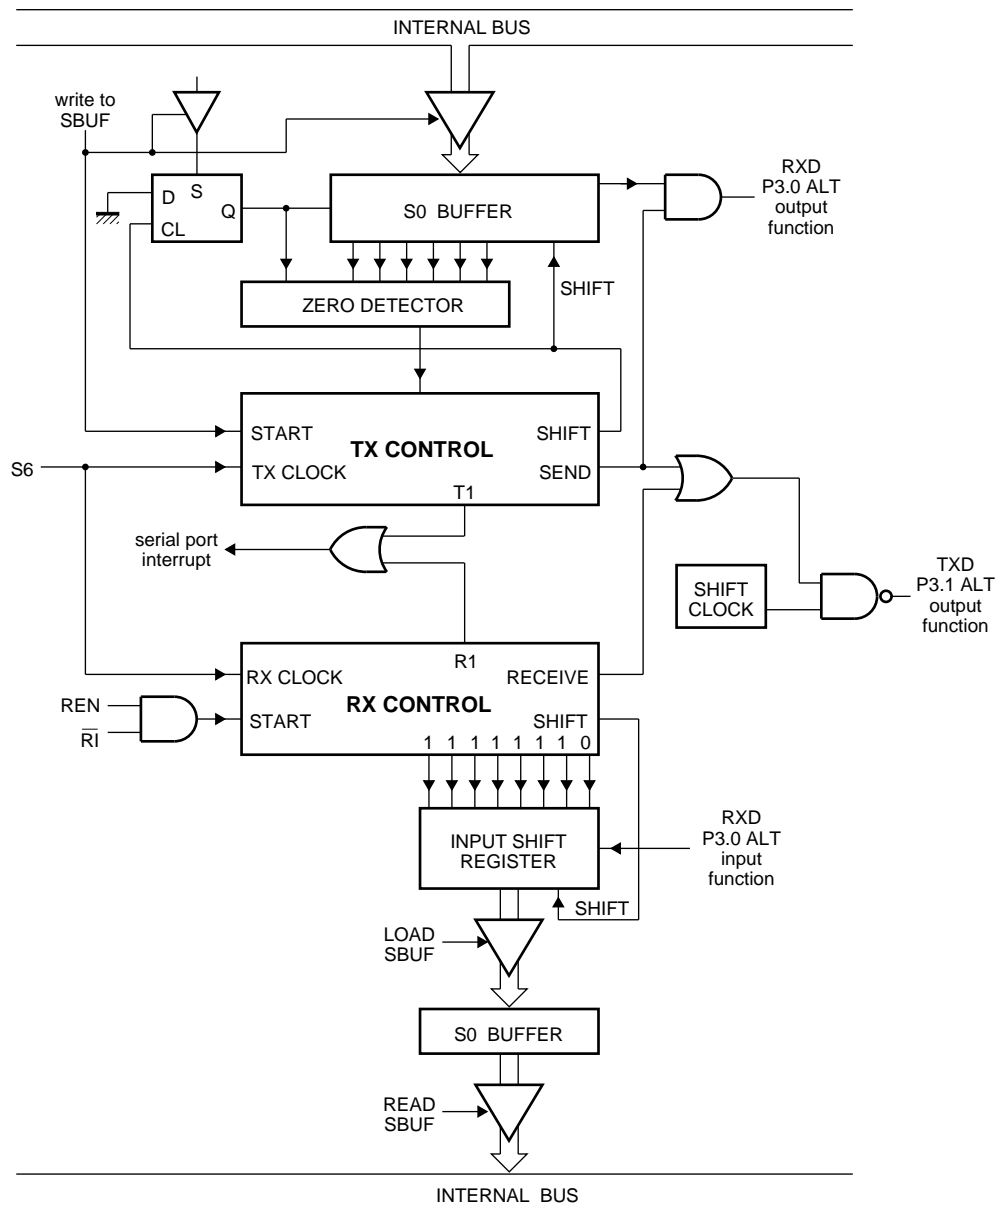

Fig.19 Serial port Mode 0.
- Mode 0 Serial data enters and exits through RXD. TXD outputs the shift clock. Eight bits are transmitted/received (LSB first). The baud rate is fixed at $\frac{1}{12} \times f_{osc}$. See Figs 19 and 20.